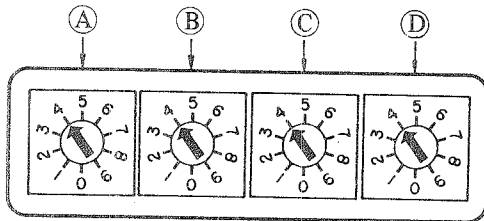

Fig. 4
- ③ When the cover is removed, the rotary DIP switches shown in Fig. 4 are accessible. Using a flat bit screwdriver, set the point of the arrow on each of the rotary DIP switches A to D, which correspond to steps A to D, at the desired number of stitches.
- ④ Reinstall the CPU control panel cover.
- ⑤ Turn the power switch ON.